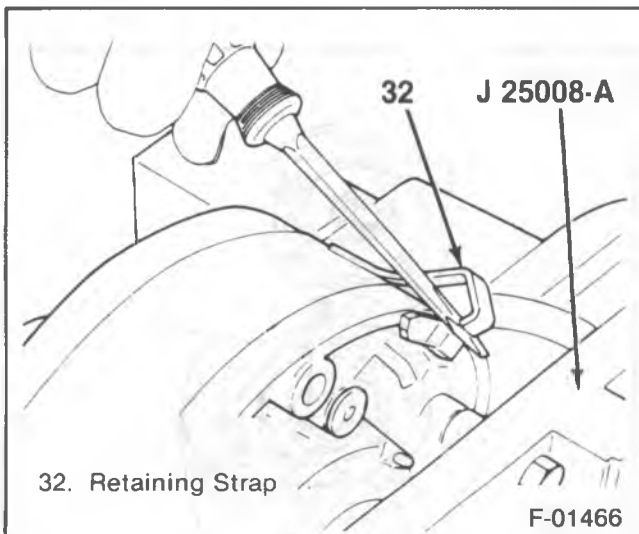

Figure 20—Releasing the Shell Retaining Strap
↔ Remove or Disconnect (Figure 20 and 21)
1. Retainer strap by prying it up (figure 20).